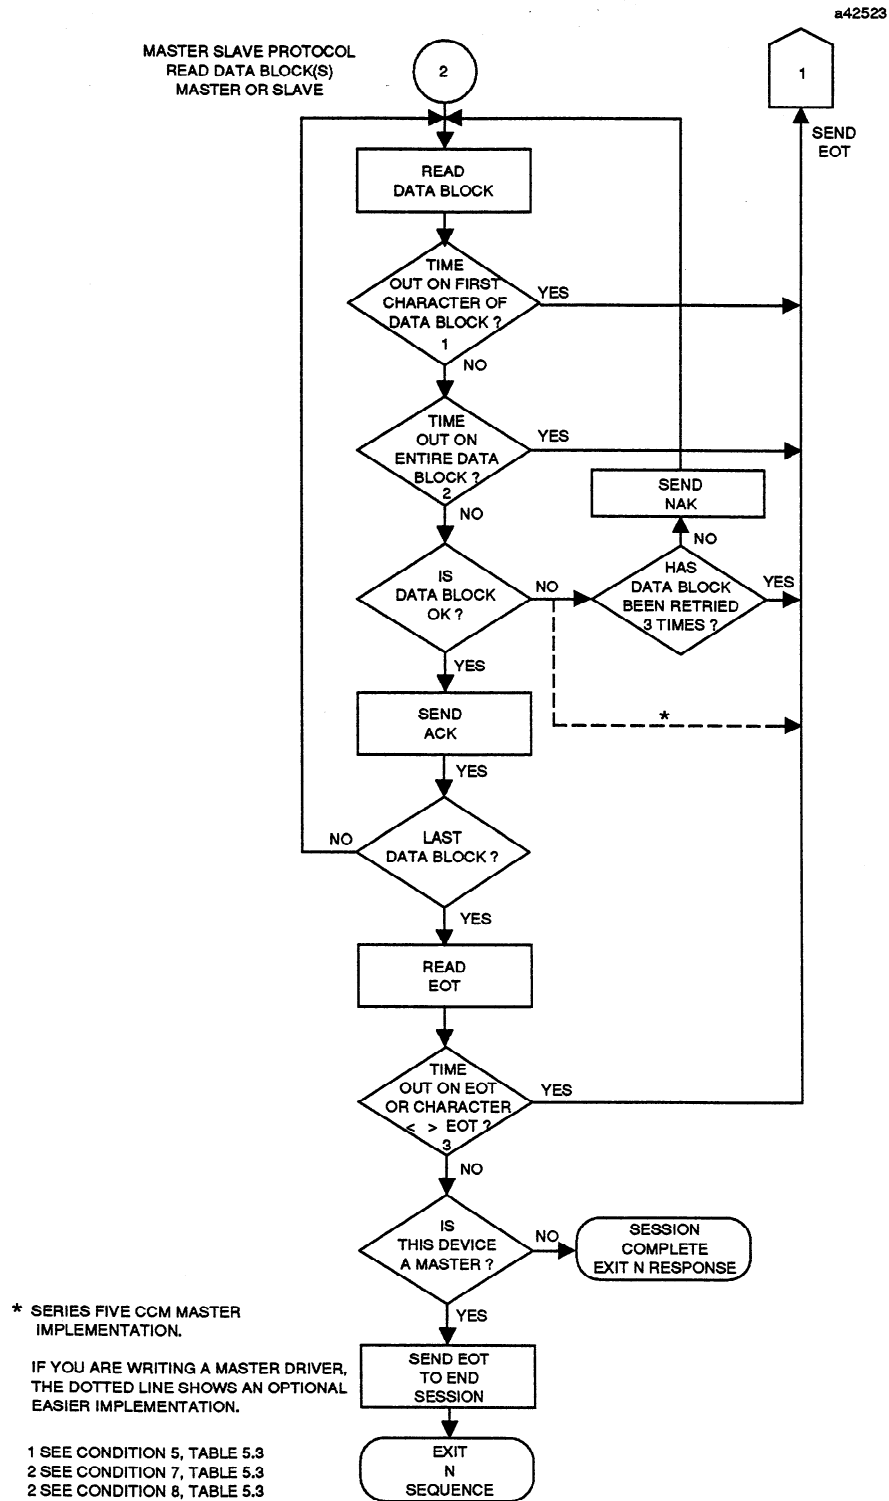

Figure 5-8. Read Data Blocks, Master or Slave
**Read Data Blocks, Master or Slave (See Figure 5-8)**